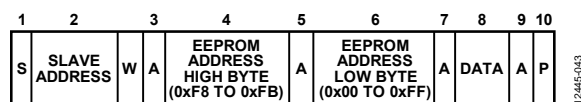

Figure 45. Single Byte Write to the EEPROM
- To write a single byte of data to the EEPROM. In this case, the command byte is the high byte of EEPROM Address 0xF8 to EEPROM Address 0xFB. The first data byte is the low byte of the EEPROM address, and the second data byte is the actual data, as shown in Figure 45.